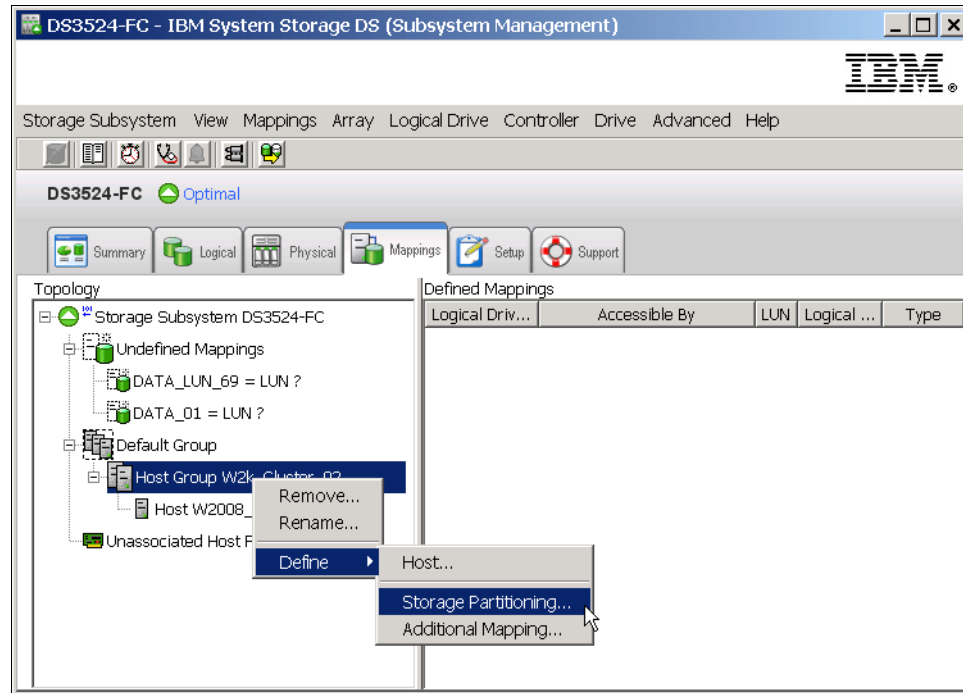

Figure 11-14 Storage Partitioning menu
1. Right-click Default Group or any unmapped host or host group icon in the Topology tree below the Default Group (Figure 11-14 on page 287) and select **Define** → **Storage Partitioning**. The Storage Partitioning wizard will lead you through the process. Note that an unmapped logical drive must exist to start this wizard.